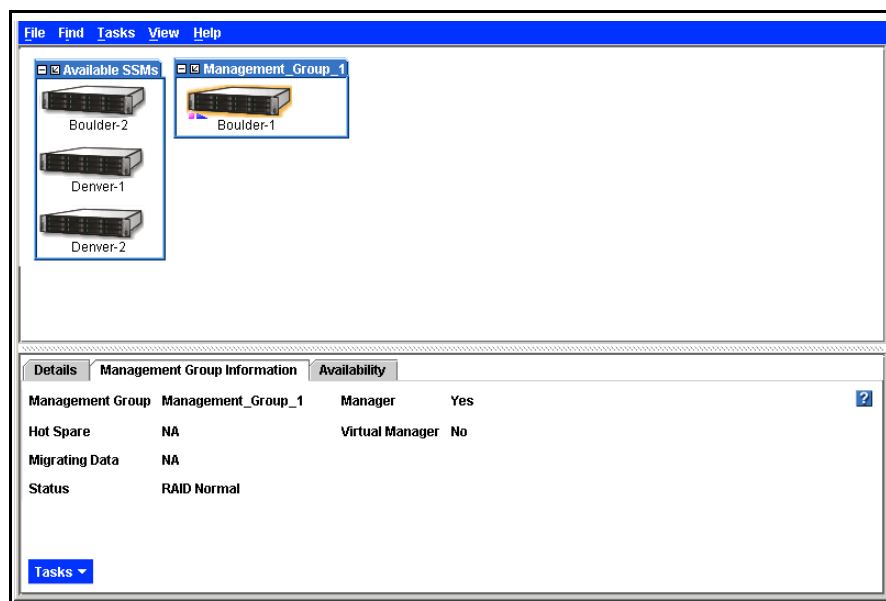

Figure 131. New Management Group with One SSM
- Click OK. The SSM joins the management group and starts the manager. The Console displays the newly created management group, shown in Figure 131.